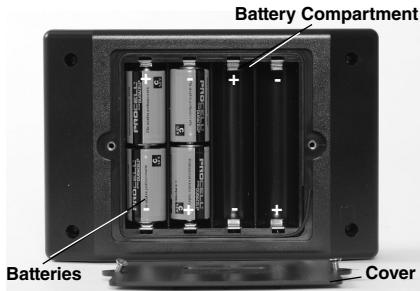

Figure 6 – Changing the Batteries (Transmitter)
1. With device OFF, remove the battery compartment cover. If needed, remove batteries (Figure 6).